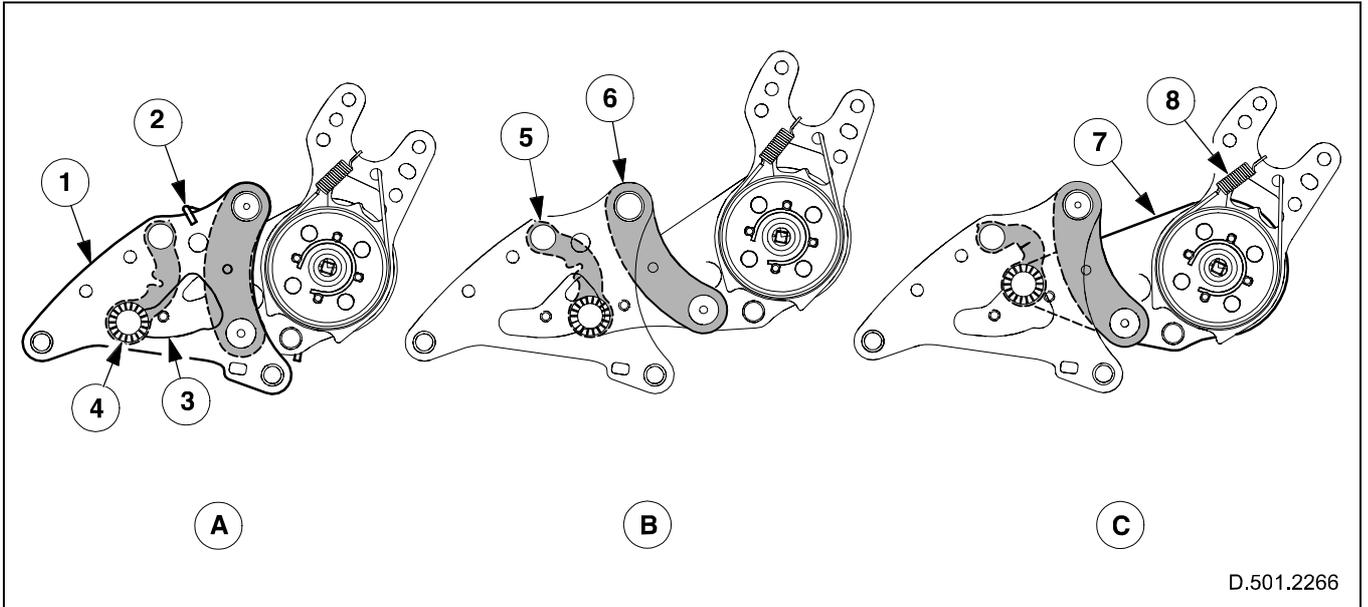

Fig. 177 Anti-whiplash mechanism (left-hand side)
With reference to Fig. 177, the mechanism has been engineered so that during a rear impact collision, the movement of the recliner plate (7) and backrest, is controlled. This is achieved by constraining the movement of the guide-pin (4) within the window (3) of the outer side-plate (1).